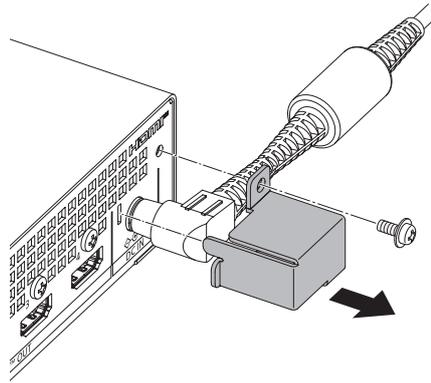

Fig. 1
1) Remove the AC adapter securing bracket (Fig. 1).